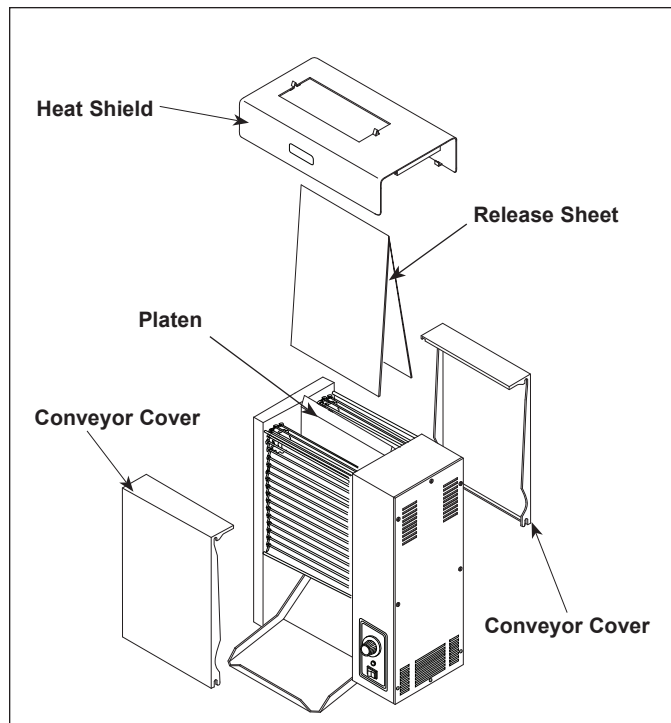

Figure 4. Installing Release Sheet
- Plastic bag containing the release sheet (Figure 4)
6. Install the Release Sheet by draping it over both sides of the Platen surface. The crease should be centered directly on top of the Platen (Figure 4).
7. Re-install the front and rear Conveyor Covers (Figure 4).
8. Install the Heat Shield so that the clips fit over the top of the Platen and retains the Release Sheet in place (Figure 4).